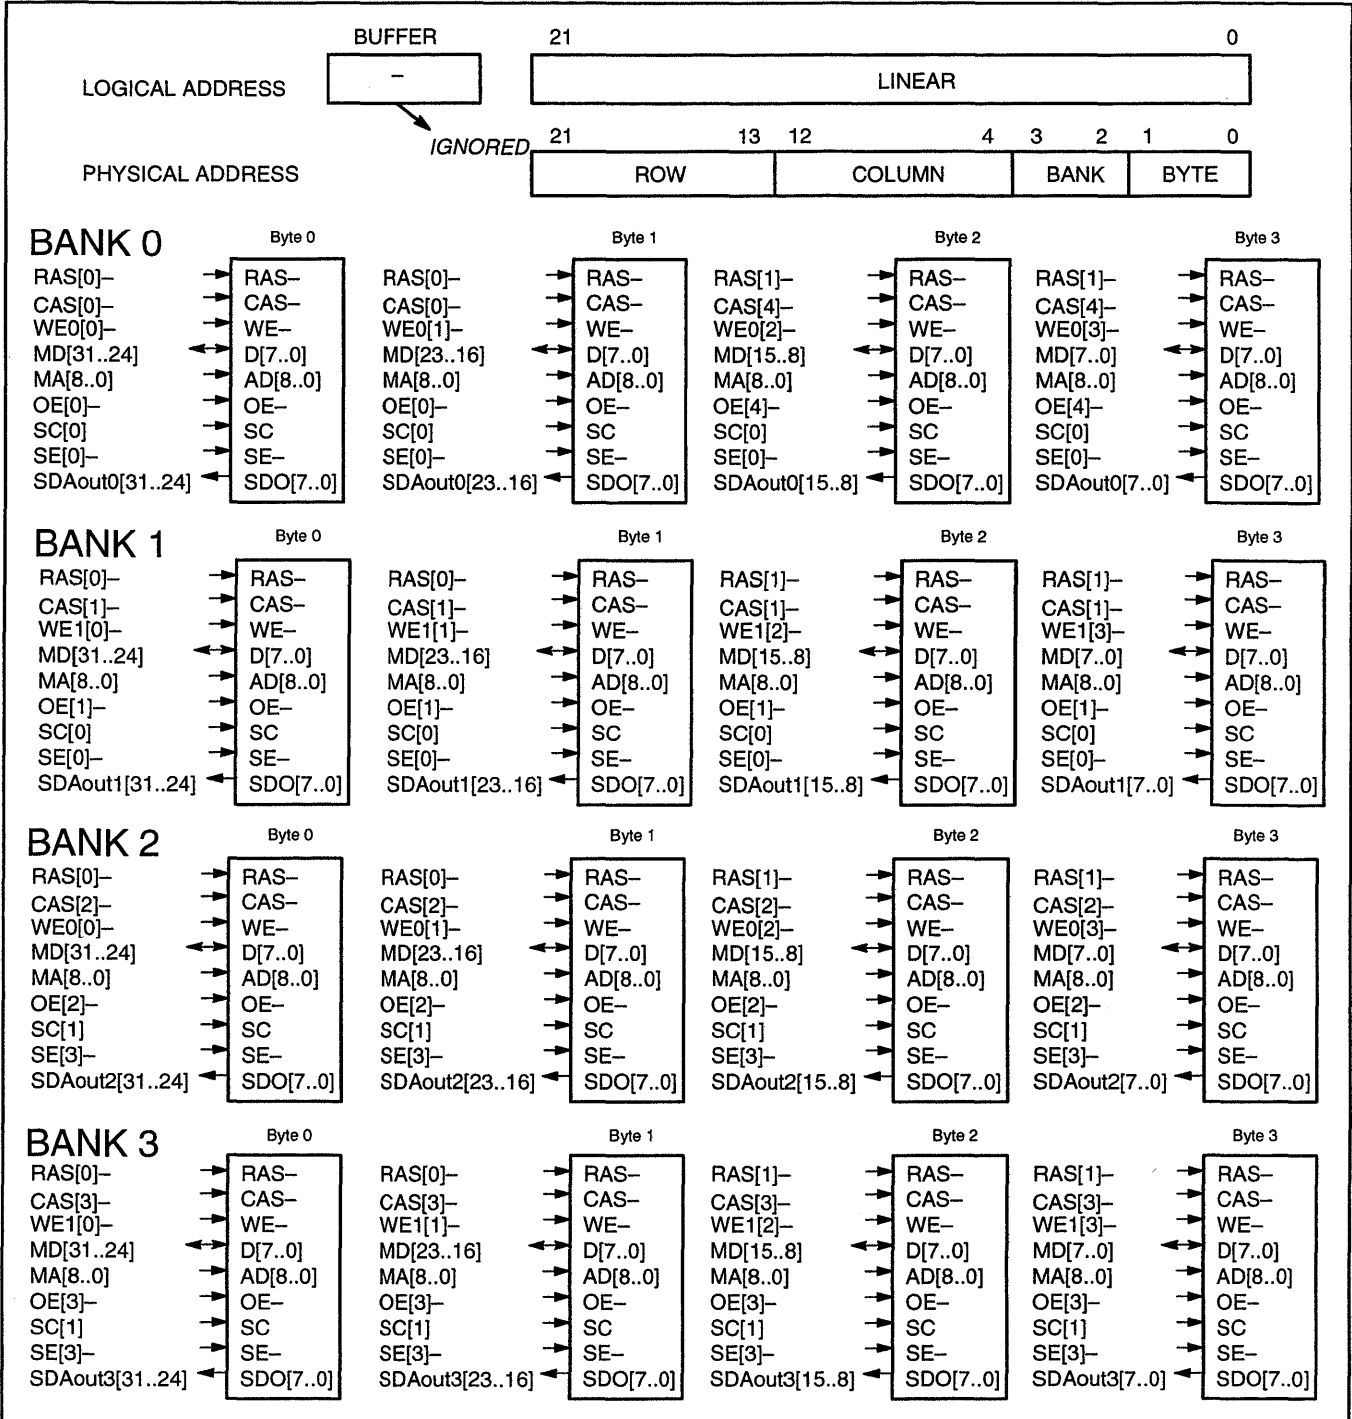

Figure 109. Config 7 (mem_config.config = 0111) 4 banks of 256K VRAMS, 1 buffer of 4MB
Figure 109 assumes that you are using a 64-bit wide RAM-DAC. If you are using a 32-bit wide RAMDAC, use external logic to generate additional serial enable (SE) signals to address banks 1 and 2. Refer to the *Power 9100/Video Power Board Application Note* for more information.